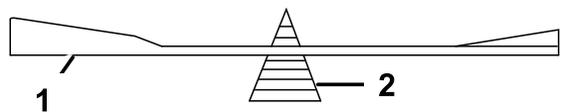

Figure 91
2. Check the balance of the blade by putting it on a blade balancer (Figure 91).
Note: If the blade is not balanced, file some metal off the end of the sail area only (Figure 91).